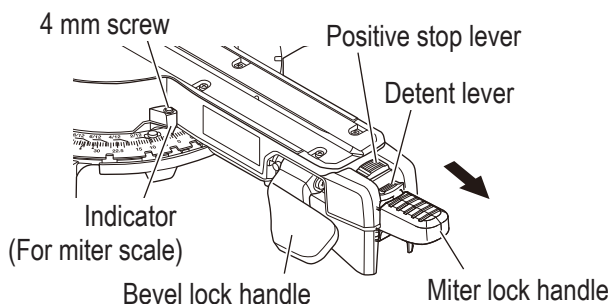

Fig. 22
The slide compound miter saw scale can be easily read, showing miter angles from 0° to 45° to the left and right. The miter saw table has nine of the most common angle settings with positive stops at 0°, 15°, 22.5°, 31.6°, and 45°. These positive stops position the blade at the desired angle quickly and accurately. Follow the process below for quickest and most accurate adjustments. (**Fig. 22**)
- (1) Push up the miter lock handle to release the turntable.
- (2) Push down the positive stop lever until the detent lever catches on it to release the “positive stop”.
- (3) Rotate the turntable and set the indicator to line up with the desired angle of the miter scale. At this time, when using the positive stop function, pull the detent lever in the direction of the arrow near the desired angle as shown in **Fig. 22**, release the detent lever, and move the turntable to secure it in place at the desired angle via the positive stop function. (0°, 15°, 22.5°, 31.6°, and 45°)
- (4) Push down the miter lock handle to secure the turntable in place.
Detent lever (**Fig. 22**)